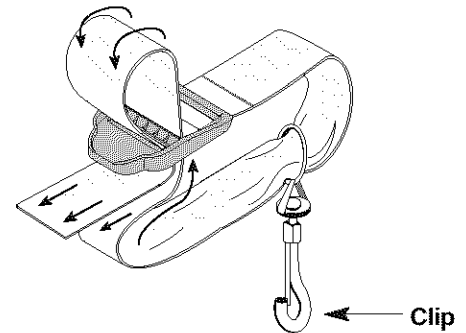

Fig. 6
2. Pull the strap over the cross bar and down through the slot in the buckle (Fig. 6).